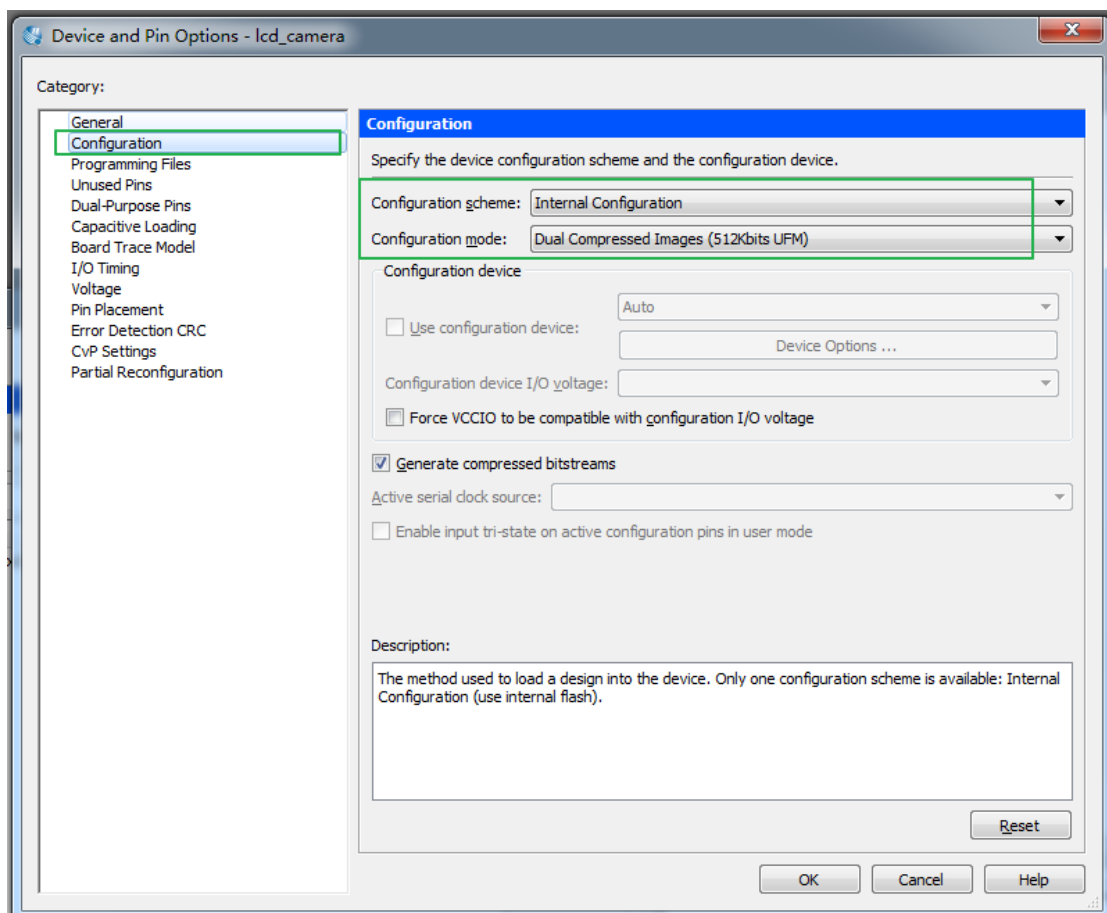

Figure 8-5 Set Dual Configuration Modes
- The configuration mode is set in Device and Pin Options window. Choose **Assignments > Device** to open Device windows. Click the **Device and Pin Options** and choose Dual Compressed Images in configuration table as shown in **Figure 8-5**. Then compile the project to generate the sof file.